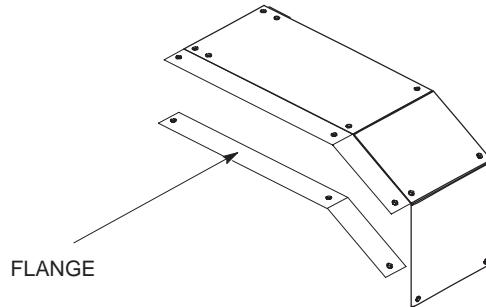

Figure 4-1 Shroud top panel detail showing the left hand flanges
2. Separate the two flanges from the left side of the shroud top panel (see Figure 4-1) and remove one of them.